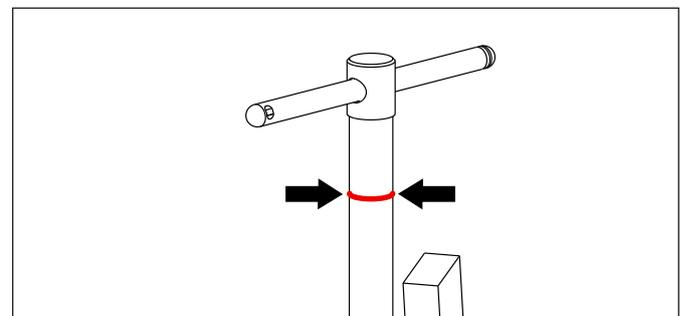

Figure 4, Thread engagement indicator (red band)
- After mounting the puller on the part to be removed, be certain that the thread engagement indicator is visible. See Figure 4 for location. If the spindle is turned clockwise too many turns, the indicator will be hidden, indicating that the amount of thread engagement is not sufficient.